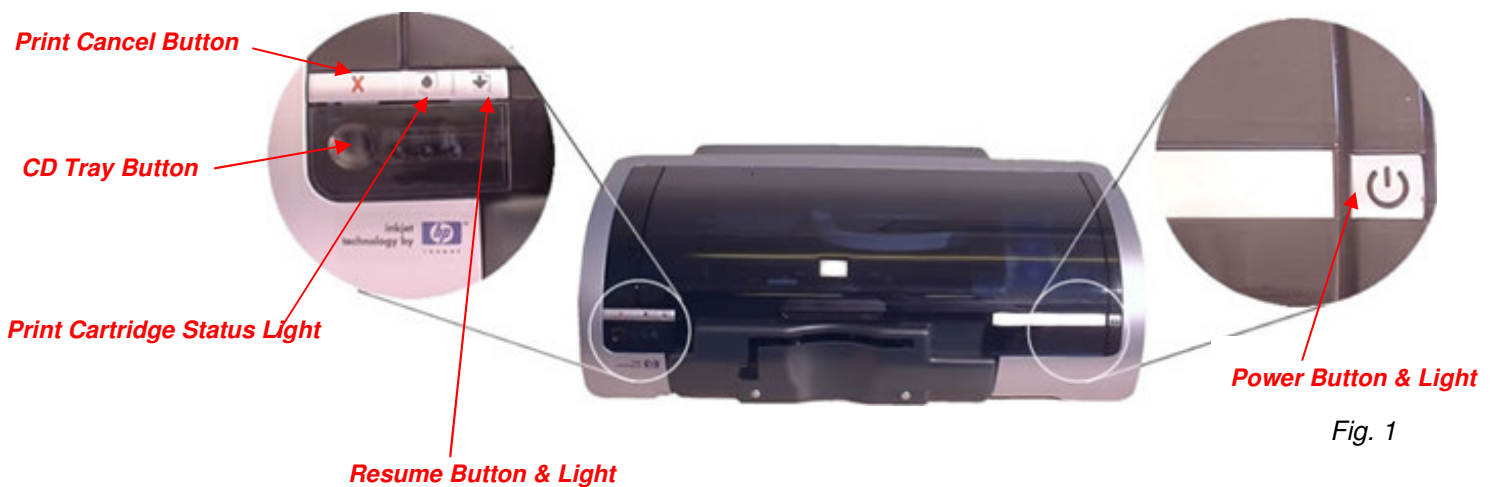

Fig. 1
2. Power up the Puma by pressing the Power Button. (See Fig. 1)
With your Puma switched on, push the CD Tray Button on the front of the printer (see Fig.1 on the previous page) and the CD tray will slide out. Place a CD onto the tray ensuring that the disc sits against the two pins at the front of the tray as shown below in Fig. 2